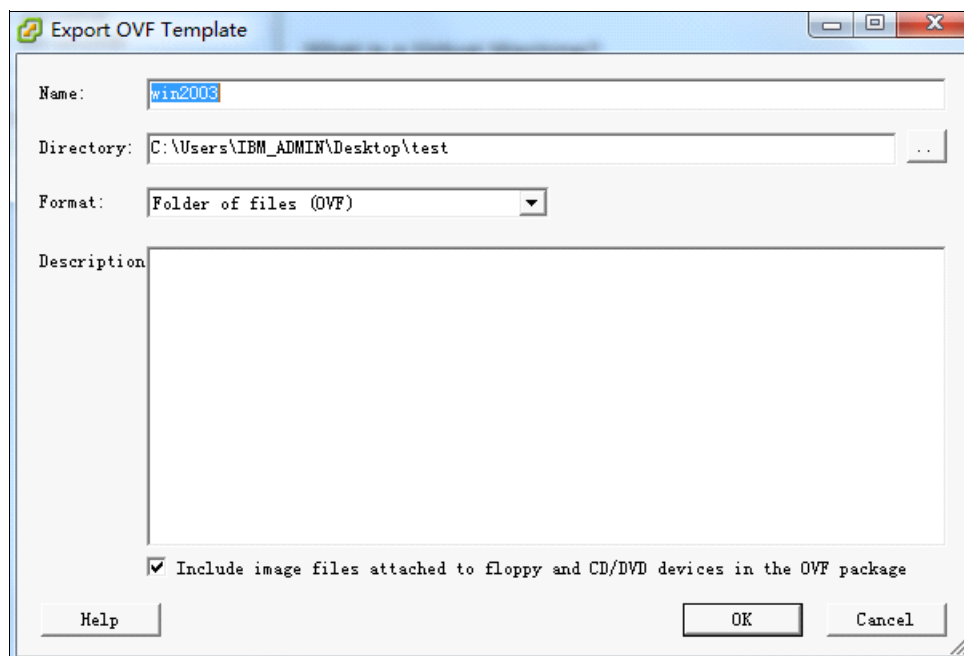

Figure 3-29 Export OVF Template
11. The Export OVF Template dialog opens. Enter the Name, Directory, and Format for the OVF template package and click **OK**, as shown in Figure 3-29.